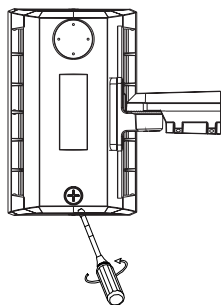

Figure 16
Step 1: Open the metal plug counterclockwise with a screwdriver, then slide the switch up and down to adjust the power controller or CCT controller in your demand (Figure 16).